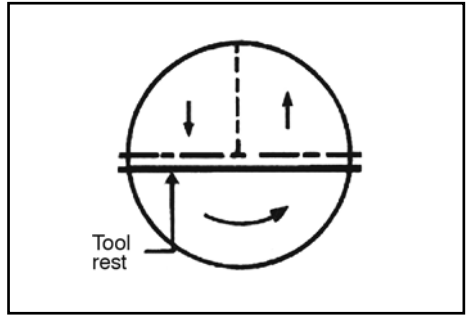

FIG. 25
10.7 POSITIONING CHISEL AND TOOL REST FOR DIAMETER SCRAPING – FIGS. 25 – 26
When diameter scraping, the area to the right of the centre is moving upward (Fig.25). If the chisel is placed in this area it will simply be carried up and off the tool rest, possibly out of your hands. So all diameter approach operations MUST be done at the left of the centre.